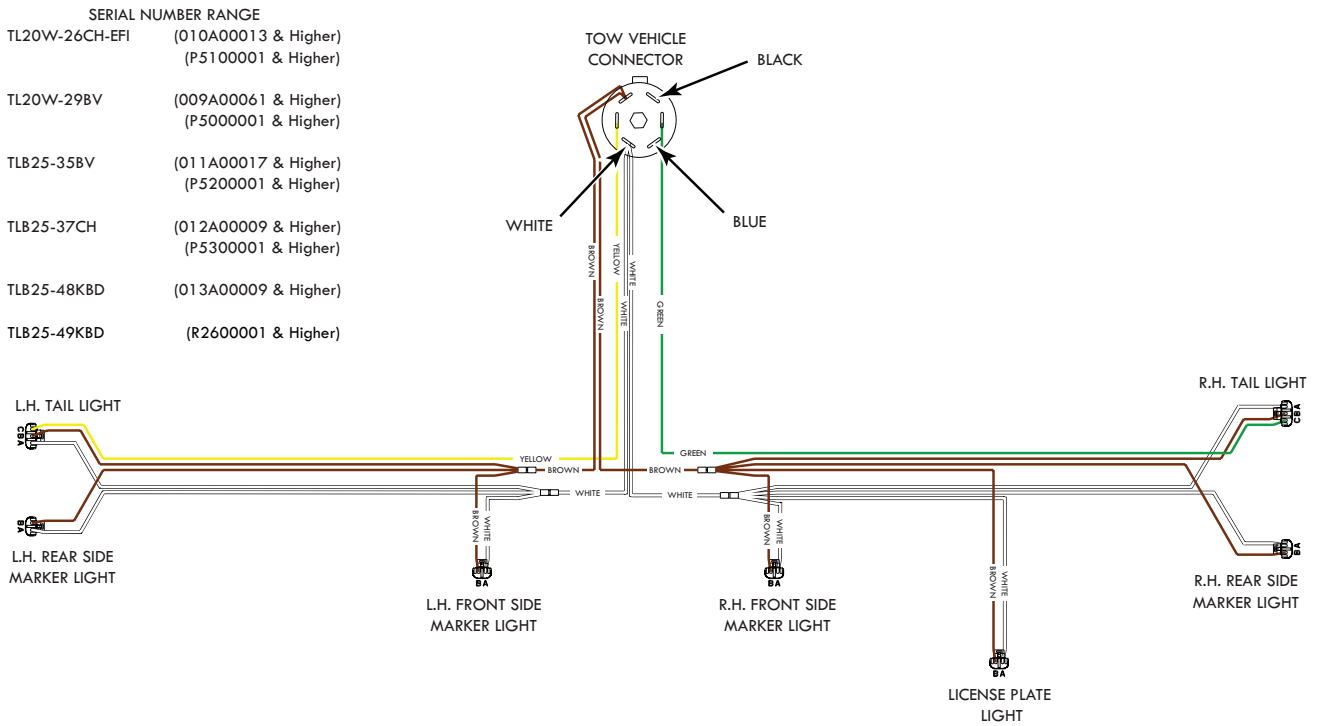

Figure 4. TL Brake Kit Wire Harness Connection
- 15. Layout the wire harness and connect the three wires (blue, white, black) to the trailer connector as shown in Figure 4.